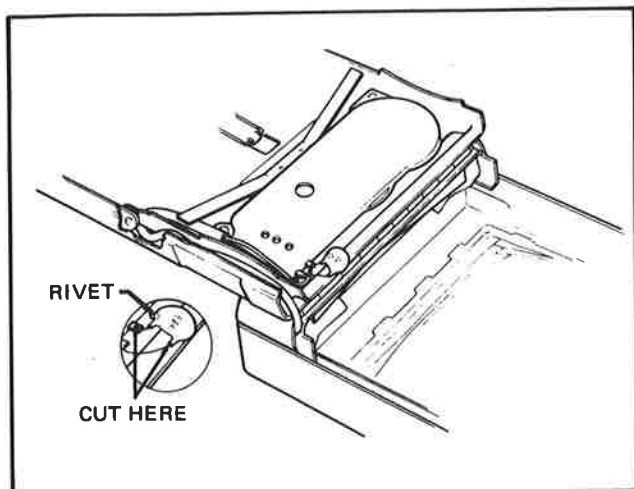

FIG. 4-14 REMOVING THE TIMER FILTER CAPACITOR
- c. With battery drain in excess of 10 microamps, the timer filter capacitor (Figure 4-14) must be replaced. The manner in
**tor leads as shown in Figure 4-14 and continue below.**